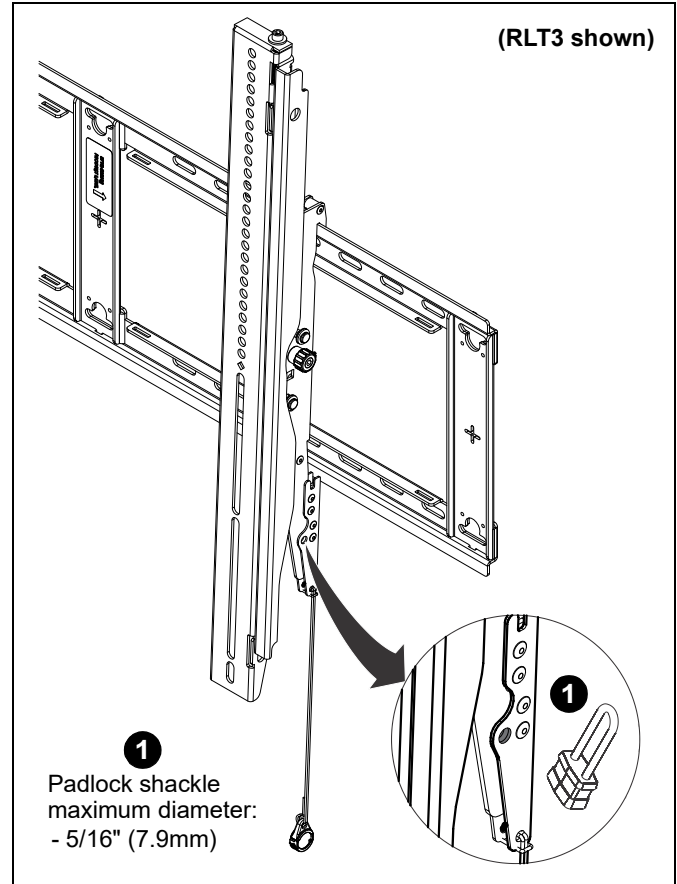

**Figure 16**
2. Adjust tilt as required. (See Figure 16)
3. The tilt may be locked at 0°, 6° or 12° using one 1/4"-20 x 1" bolt (Z) and one 1/4"-20 nut (Y) per interface bracket. (See Figure 16)